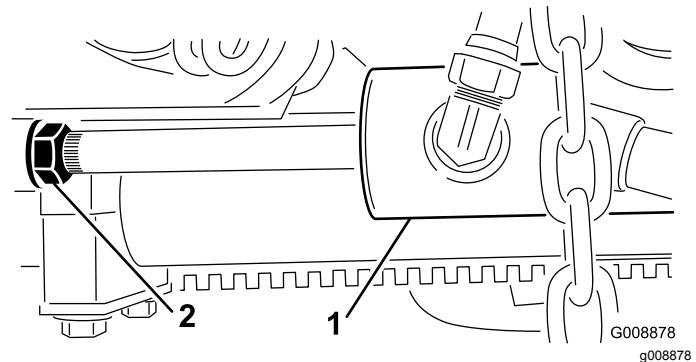

Figure 27
B. Back off the jam nut on the cylinder (Figure 27).